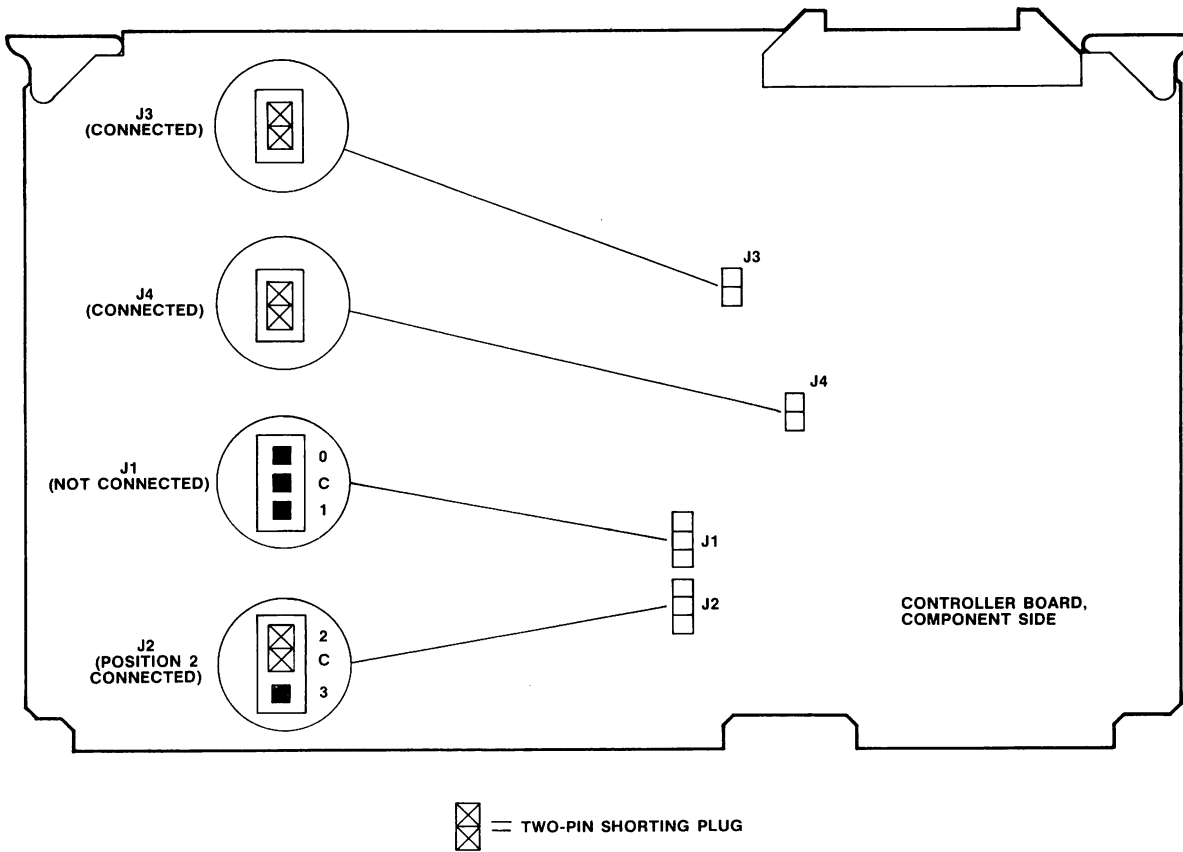

Figure A-1. Device Code Jumpers
1. **Controller board device code.** Figure A-1 shows the locations and diagrams of jumpers J1, J2, J3, and J4 on the Controller board. Device code 32H is the required device code for a single ICE-51 system. Verify that shorting plugs are installed as follows to select device code 32H: